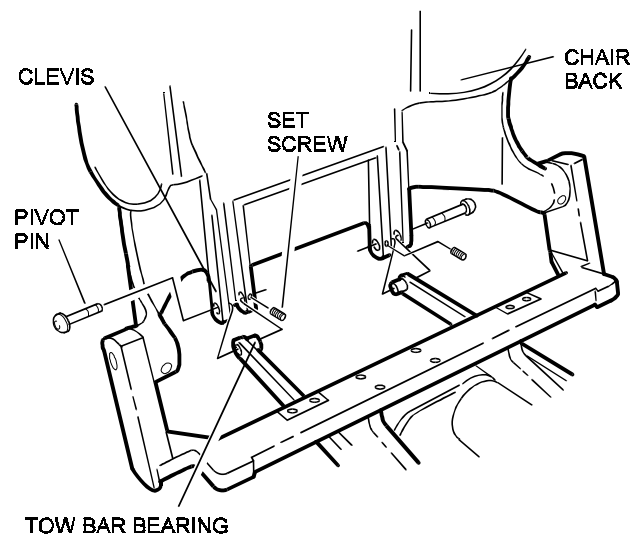

**Figure 4**
4. Align the tow bar bearings with the clevis and insert the pins on both sides as shown in Figure 4.